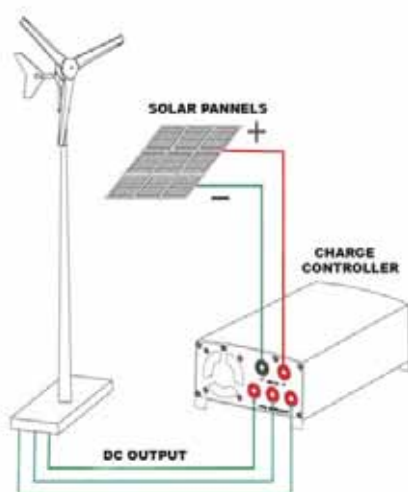

figure 3
- When performing periodic inspections, or at anytime when you must approach the path of the blades, disconnect the power leads from the battery and tie the wind turbine output leads together to stop (*slow down*) the blades from rotating. The turbine can also be shut down through the use of a stop switch. Please refer to Figure 3 on page 12 on how to install a stop switch in your system.